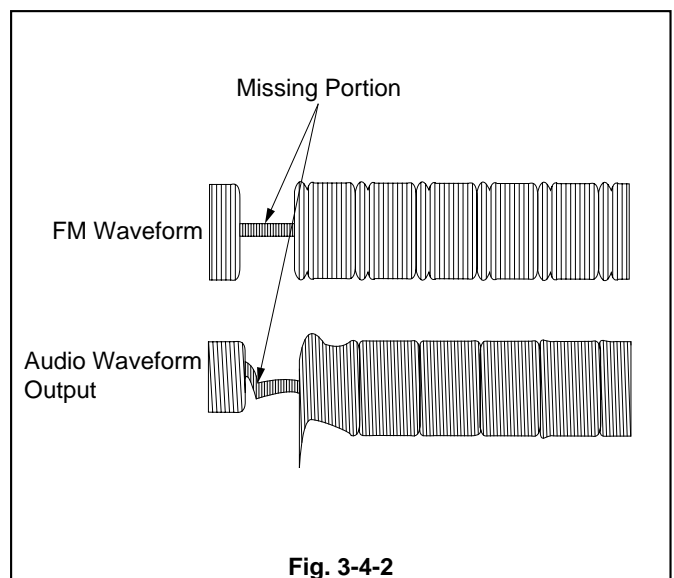

Fig. 3-4-2
6. Confirm the Missing Portions of the FM Waveform and Audio Waveform are as shown in the Fig. 3-4-2.
7. If the Missing Portions differ from the Fig. 3-4-2, repeat the procedure 3.